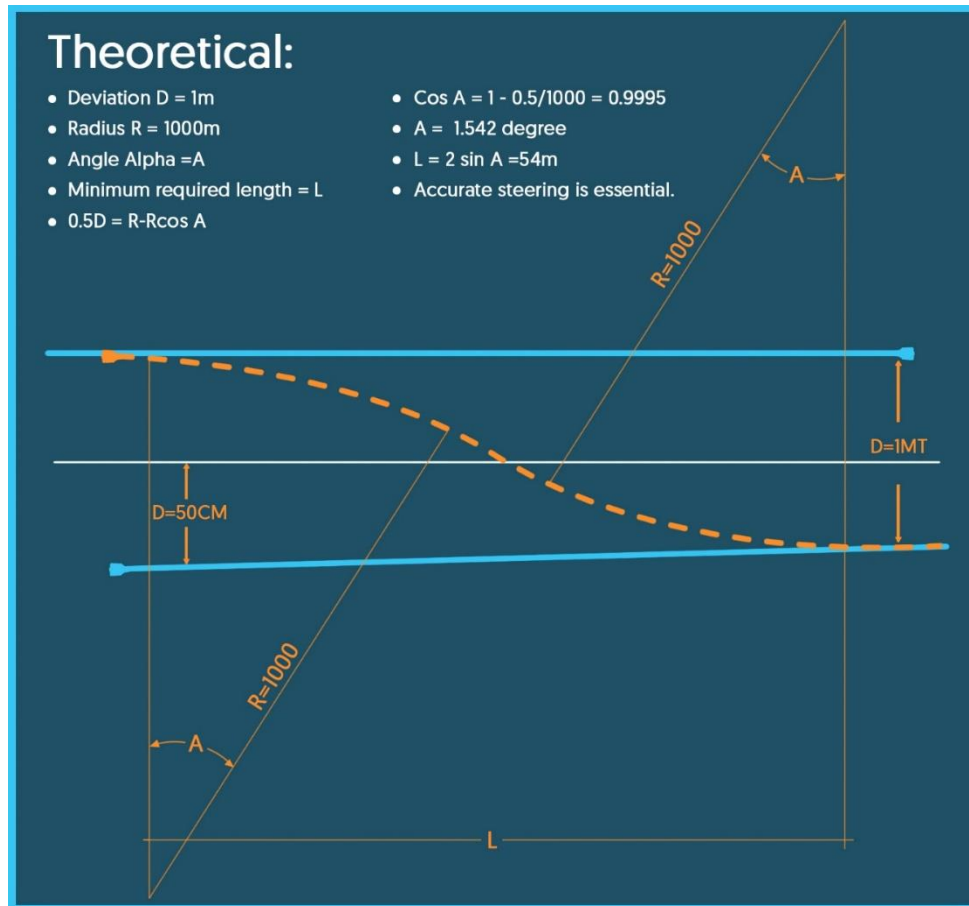

Figure 1. Example Calculation for Determining Intersect Radii.
Figure 1 shows where two drill lines are measured with a separation of 1m. The radius is specified as 1000 meters. A plan is calculated to accomplish a smooth radially compliant intersect. In the example, the calculated drill distance required (L) to complete the intersect is 54m if the allowable radius for the pipeline is followed. Other calculated designs to close this distance could be preferred, based on feasibility of adhering to the plan to do so. Of course, any failure to stay on the planned alignment would only lengthen the required distance to bridge the gaps between holes. Alternatively, any radical adjustments made may compromise both holes at the intersect point radially,